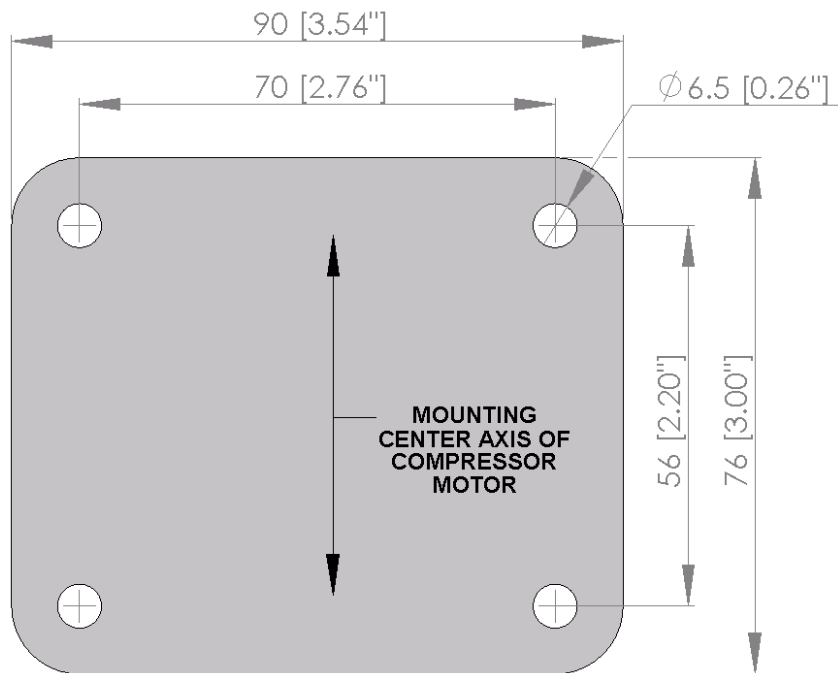

Figure 2.
- Using the compressor backing plate as a template, or referring to Fig.2. for exact sizes, drill four mounting holes at a diameter of 6.5mm [0.26"].